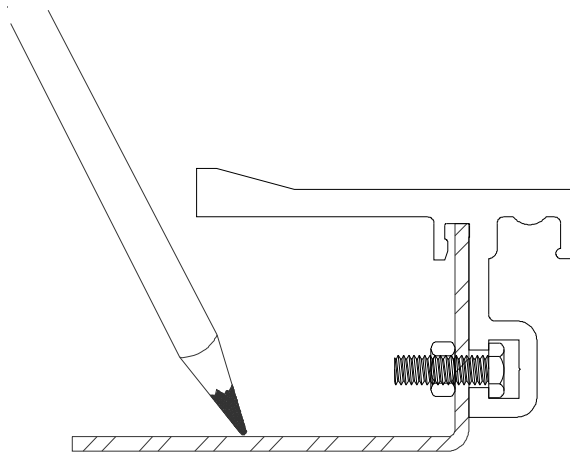

Figure 2
**STEP 3.** If the anchor holes have not been pre-drilled in the base member assemblies at the factory, mark the locations for the anchor holes on the steel angles (see Figure 2). Standard anchor spacing is 20" O.C. with an anchor at a nominal 3" from each end of the base member assembly. If necessary, drill the holes into the base member assemblies at the marked locations. Repeat this procedure for each section of the base member assemblies.